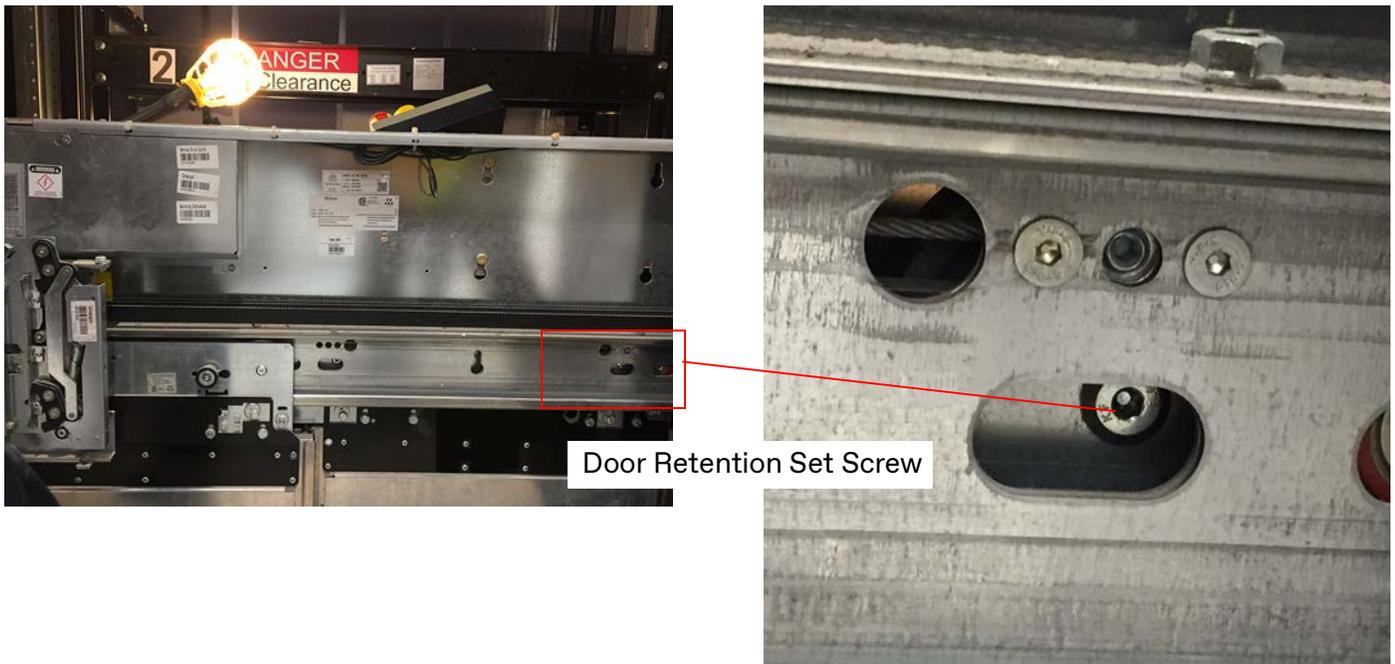

Figure 11 - Relating Car Doors (Two-speed shown)
2. Loosen the door relation set screw. See Figure 11.